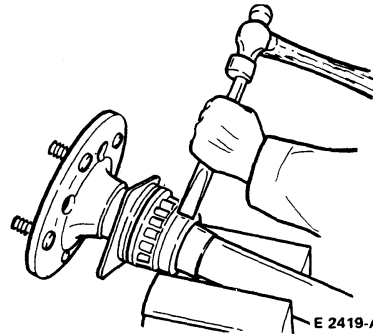

FIG. 7 Removing Rear Wheel Bearing Retainer Ring
2. After drilling the retainer ring, use a chisel positioned across the drilled hole and strike sharply to break the retainer ring (Fig. 7). **Retainers are not reusable after having once been installed and must be scrapped after removal.**